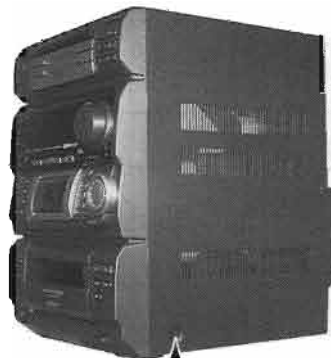

Fig 1 A x 2
1. Remove two screws A on both sides of the top cover and six screws B on the rear side. (See Fig.1,2)